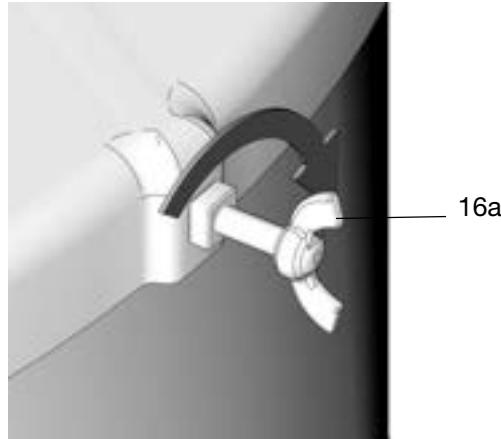

FIG. 29
9. Tighten the thumb screws (16a) to secure the cover (16) to the drum (FIG. 29).